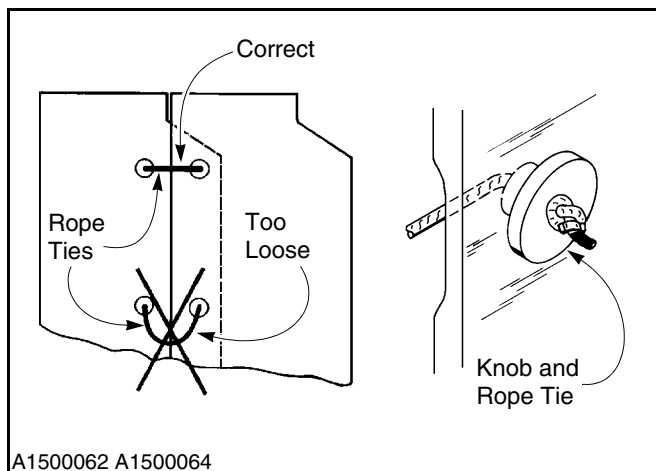

Figure 9
5. If the door uses rope ties, the knobs and rope should be in place and properly tied. (See Figure 9.)